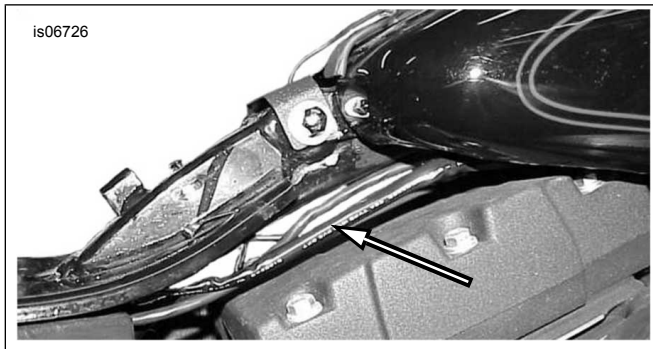

Figure 31. Transmitter Wire Routing to Headlamp (Dyna)
1. See Figure 31. Use cable straps from the kit to fasten the remaining transmitter wire (white) and conduit to the vehicle wires leading to the headlamp. Lift the fuel tank. Feed the wires under the tank toward the headlamp.